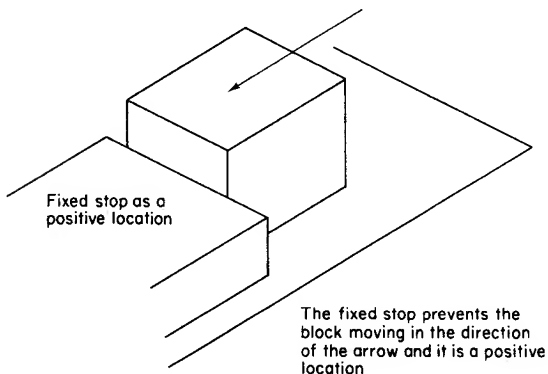

Fig. 4.37 Positive location
- (1) by positive location (Fig. 4.37).